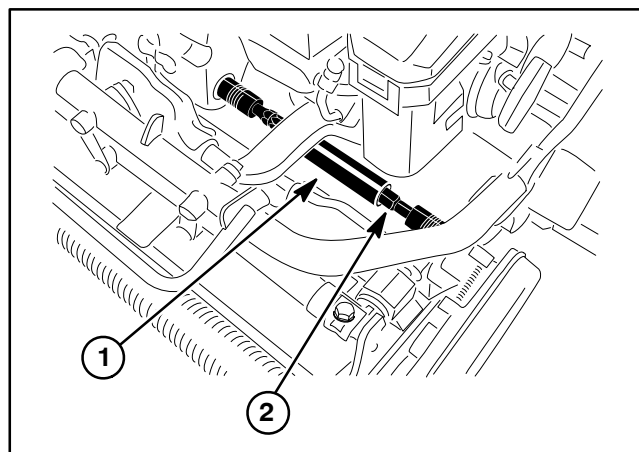

Figure 58
4. Slide the telescoping coupler off the cutting unit hex shaft (Fig. 58).
7. Remove four (4) washer head screws (item 7) that secure extension housing (item 13) to RH drum housing.
- A. Flange head screw (item 2) that secures front of transmission to frame.
- B. Cap screw (item 10), hardened washer (item 9) and flange nut (item 12) that secure rear of transmission to frame.
- A. Four (4) washer head screws (item 7). First, torque all screws from **15 to 40 in-lb (1.7 to 4.5 N-m)**. Then, using an alternating crossing pattern, torque screws from **85 to 95 in-lb (9.6 to 10.7 N-m)**.
- B. Cap screw (item 10) and flange nut (item 12) that secure rear of transmission to frame.
- C. Flange head screw (item 2) that secures front of transmission to frame.
7. Slide the telescoping coupler onto the cutting unit hex shaft (Fig. 58).